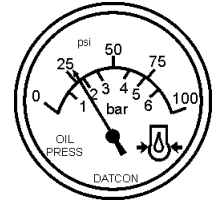

Figure 50. Oil Pressure Gauge
14. The engine oil pressure gauge (Figure 50) will indicate the oil pressure (kg/ cm²) of the engine. Under normal operating conditions the oil pressure is approximately 35~65 PSI.